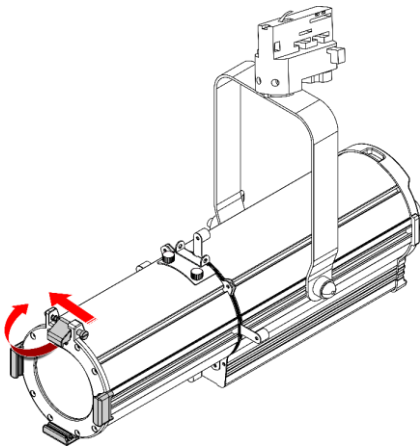

Fig. 13
- 01) Push the **spring-loaded screw (10)** and at the same time lift and flip backwards the **color frame clip (09)** (see Fig. 13).